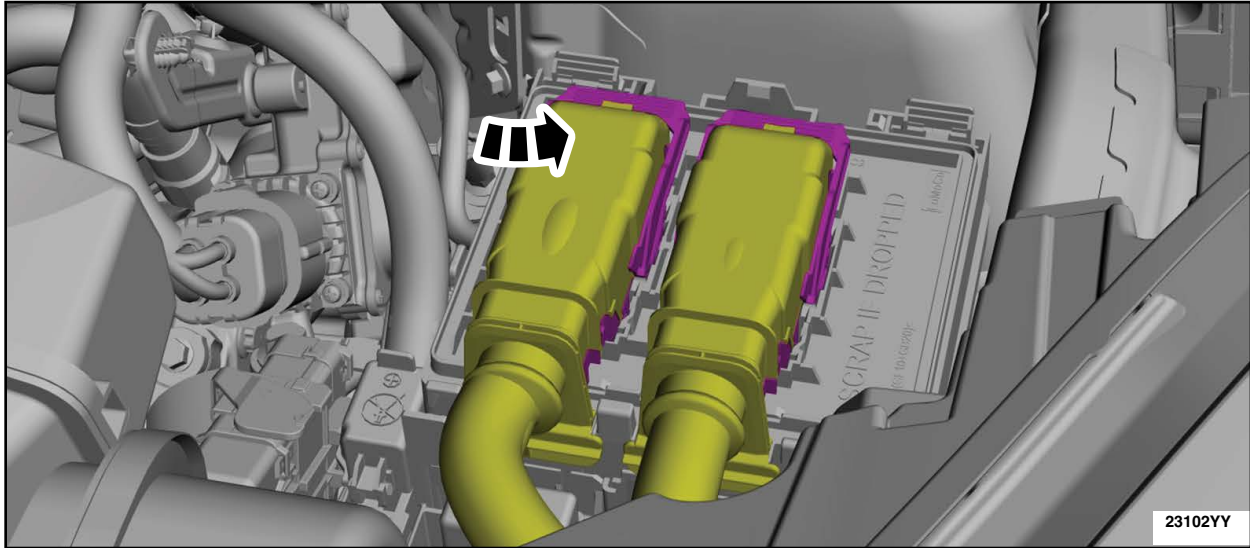

FIGURE 27
32. Reconnect the battery junction box electrical connector, C1035A. See Figure 27.